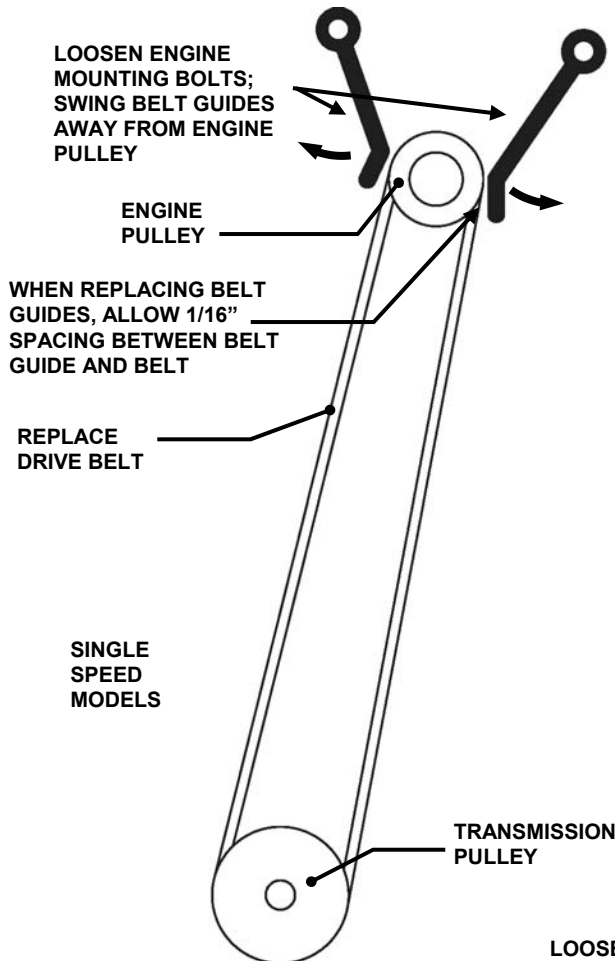

FIGURE 4.8
- a. Loosen (do not remove) engine mounting bolts securing belt guides, and swing belt guides out away from engine pulley. See Figure 4.8.
- b. Replace belt, noting belt routing in Figure 4.8.